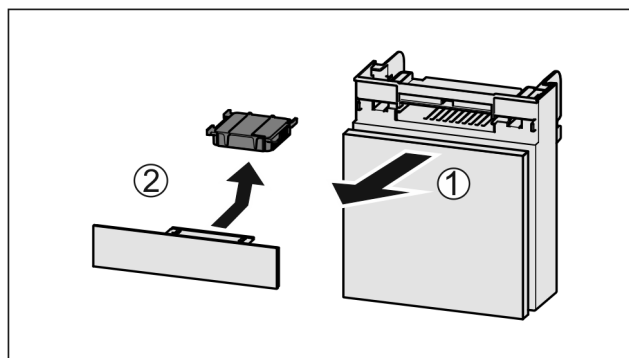

Fig. 254
- ▶ Pull out the compartment Fig. 254 (1).
- ▶ Remove the carbon filter Fig. 254 (2).